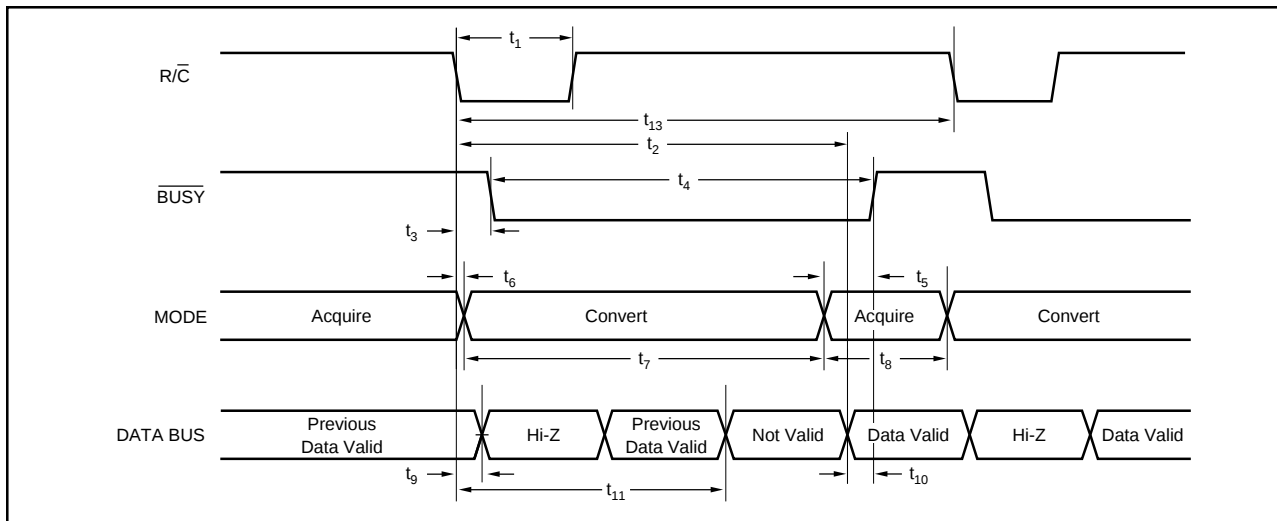

FIGURE 3. Conversion Timing with Outputs Enabled after Conversion ($\overline{CS}$ Tied LOW.)
The ADS7821 will begin tracking the input signal at the end of the conversion. Allowing $10\mu\text{s}$ between convert commands assures accurate acquisition of a new signal. Refer to Table II for a summary of $\overline{CS}$, $\overline{R/C}$, and $\overline{BUSY}$ states and Figures 3 through 5 for timing diagrams.
NOTE: (1) See Figures 3 and 4 for constraints on data valid from conversion "n-1".
After conversion 'n' is completed and the output registers have been updated, $\overline{BUSY}$ (pin 26) will go HIGH. Valid data from conversion 'n' will be available on D15-D0 (pin 6-13 and 15-22). $\overline{BUSY}$ going HIGH can be used to latch the data. Refer to Table IV and Figures 3 through 5 for timing specifications.
After conversion 'n' has been initiated, valid data from conversion 'n-1' can be read and will be valid up to 5 μ s after the start of conversion 'n'. Do not attempt to read data from 5 μ s after the start of conversion 'n' until $\overline{BUSY}$ (pin 26) goes HIGH; this may result in reading invalid data. Refer to Table IV and Figures 3 through 5 for timing specifications.
The number of control lines can be reduced by tying $\overline{CS}$ LOW while using $R/\overline{C}$ to initiate conversions and activate the output mode of the converter. See Figure 3.